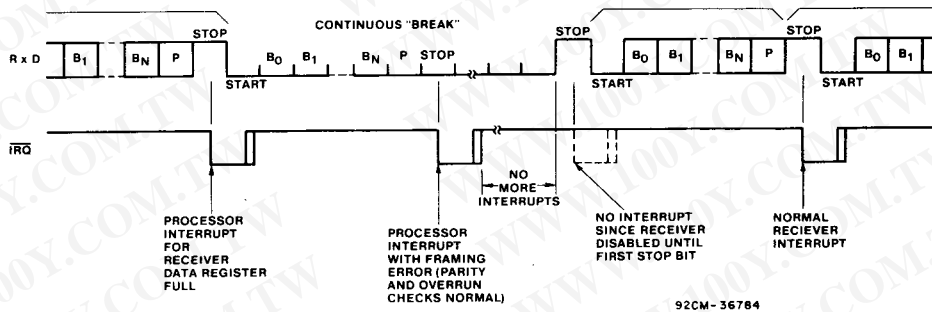

Fig. 19 - Receive continuous "BREAK".
**Receive Continuous "BREAK" (Fig. 19)**